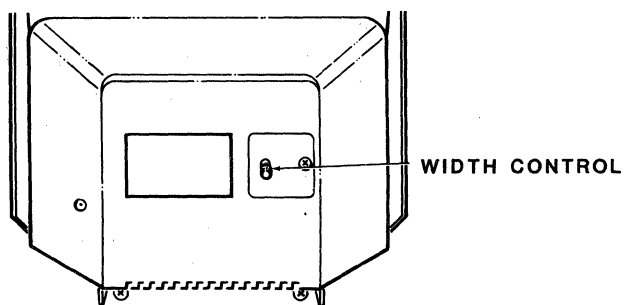

Figure 3.2
6. Locate the width control on the back of the monitor and use it to adjust the horizontal size of the video display. Refer to Figure 3.2 for the location of this control.